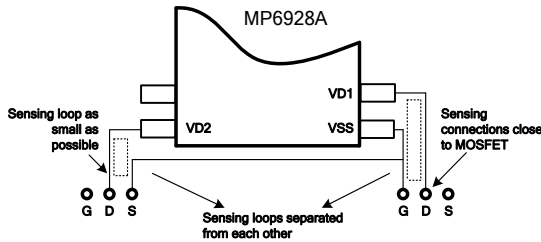

Figure 11: Sensing for VD/VSS
3. Make the sensing loop as small as possible (see Figure 11).